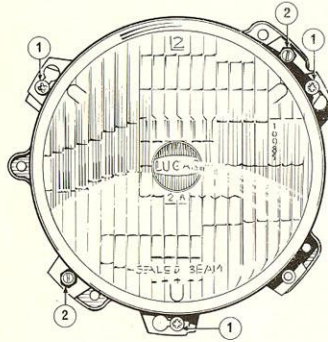

Figure 35 Headlamp adjustment
To remove the sealed beam unit slacken three screws (1) **Figure 35** press the rim inwards and turn it counter-clockwise to enable it to be lifted over the screw heads. Release the light unit by pulling the adaptor from the rear of the unit. Do not disturb the beam aiming screws.
Horizontal adjustment is obtained with the top 'beam adjusting screw' (2) **Figure 35** and vertical adjustment with the bottom screw (2) **Figure 35**.